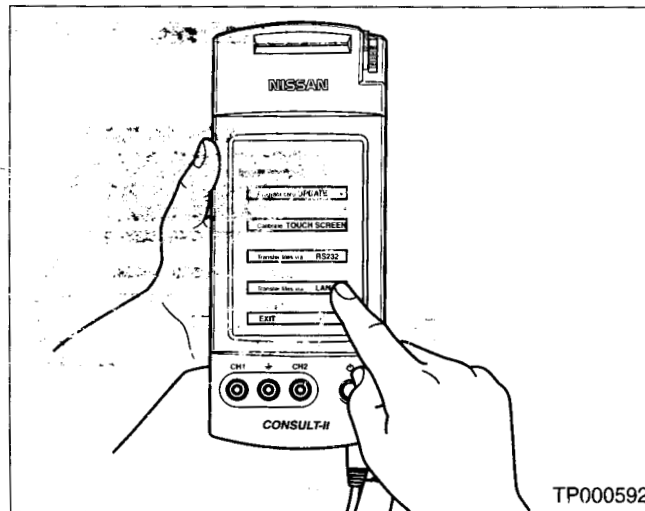

Figure 10
B. Select "**Transfer files via LAN**" (see Figure 10). Set the CONSULT-II unit down for now.